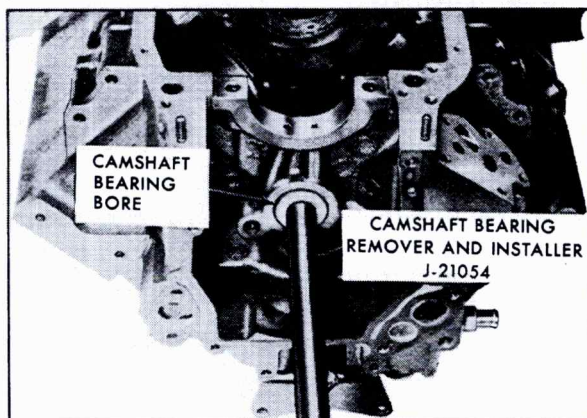

Fig. 6-126 Removing Camshaft Bearings
2. Thread Arbor, J-21054-2 on end of Drive Shaft, J-21054-1, and position shoulder on arbor against front face of No. 1 bearing, Fig. 6-126.